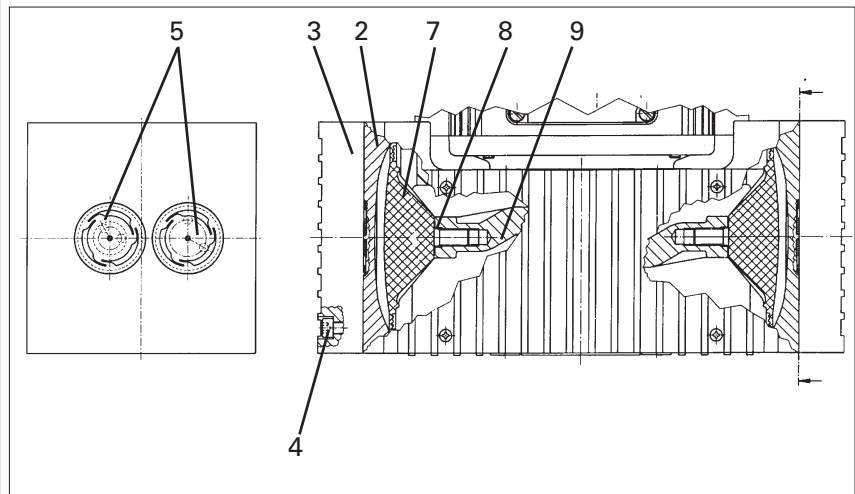

Fig. 2: Pump heads ANE and ATE types (symbolic)
- ▶ The position numbers in the following text refer to figs. 2 and 3.
- 1 Make a mark (M) on the ribbed plate 3, intermediate plate 2, and housing 1 with a felt-tip pen. This is to ensure that the parts will be reassembled correctly at a later stage.